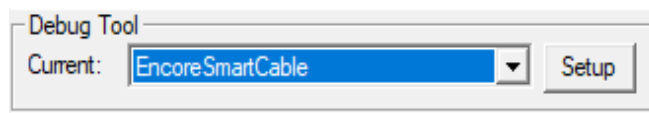

Figure 5. Setup EncoreSmartCable
8. Click Setup on Figure 5 below to open the Setup USB Communication dialog.